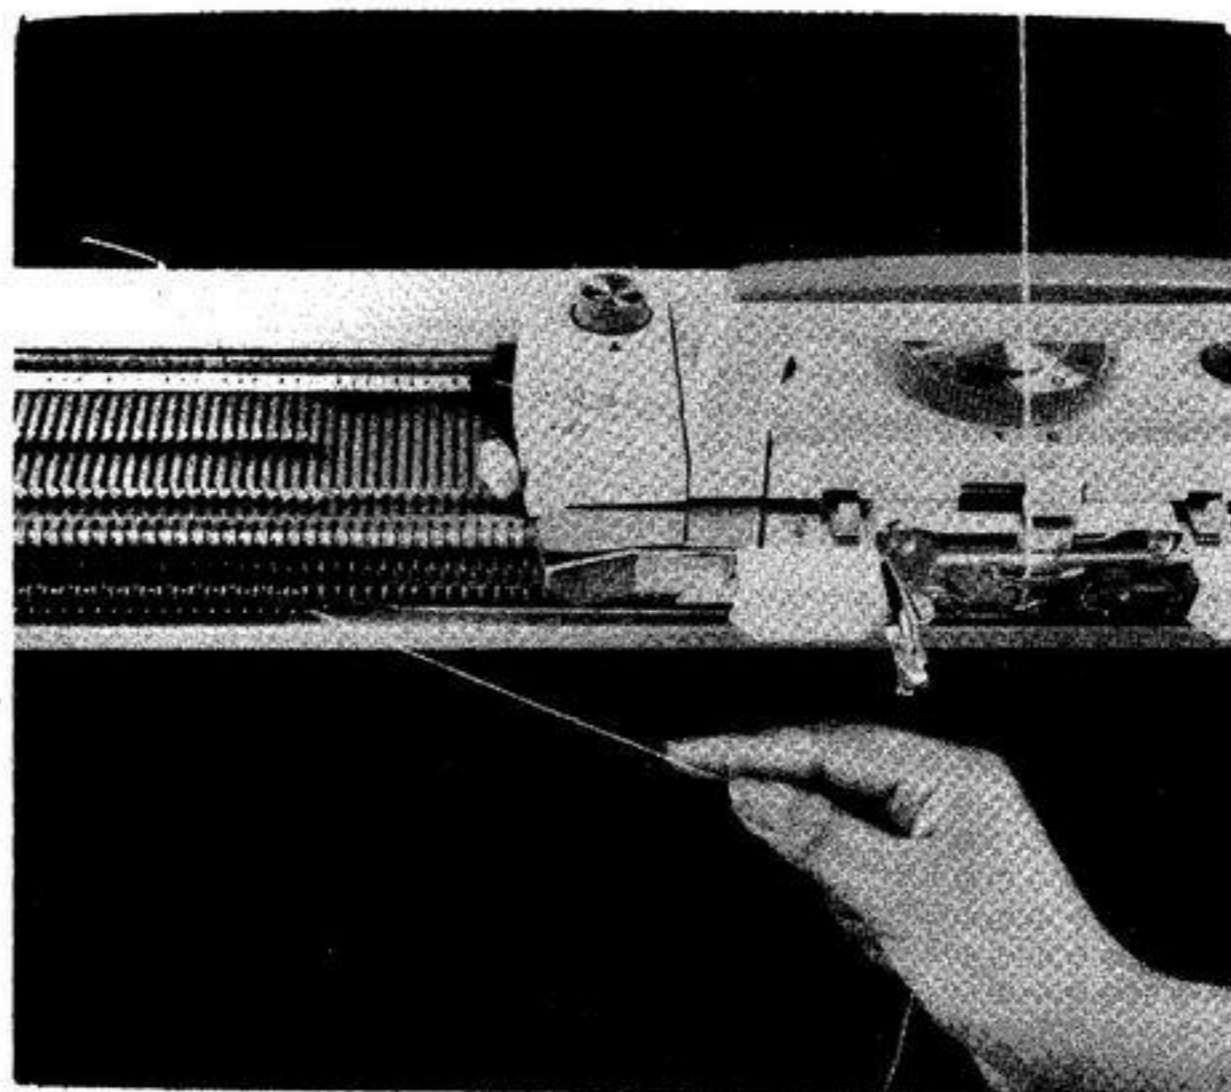

Fig. 29
m) Pull the loose end of wool gently along the sinkers towards the right until the wool is taut as shown in Fig. 29.